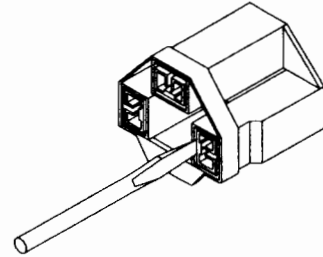

Figure 3A
2. Inside the ECU, the number 7B terminal must be removed from the No. 7 connector. Refer to Figure 16. Remove the No. 7 connector from the ECU terminals. Place the thin blade of a small flat screw driver between the inside surface of the plastic housing and the terminal as shown in Figure 3A. This will release the locking tab of the terminal. Pull gently on the wire to dislodge the terminal from the housing . Note how the terminal is oriented in the connector.